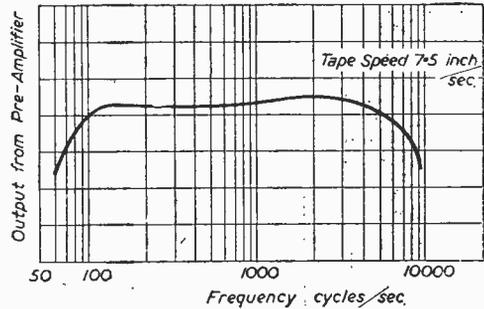

Fig. 3.—Equalised curve for constant input voltage.
(L) with a shunt capacitor of 0.0025  $\mu$ F (C8) the circuit will resonate at 6 Kc/s. which is about where we want the top lift. At frequencies far from resonance the presence of L1 and C8 have little effect, but C6 and R9 tend to give a bass lift by attenuating the higher frequencies. At resonance, however, the dynamic resistance of the circuit is rendered greater, producing an increase in gain at that frequency, the combined effect of the two corrector circuits produce a tape output at the preamplifier similar to the response curve shown at Fig. 3, assuming a constant record voltage independent of frequency. The resistor R7 increases the effective load impedance of the first triode, while R10 increases the input impedance to the second triode in relation to the top boost circuit, thus producing a greater output at resonance. All normal hum-reducing precautions will need to be taken in the preamplifier construction (see article by the author, "Hum Problems in Low Level Amplifiers," PRACTICAL WIRELESS, July issue).